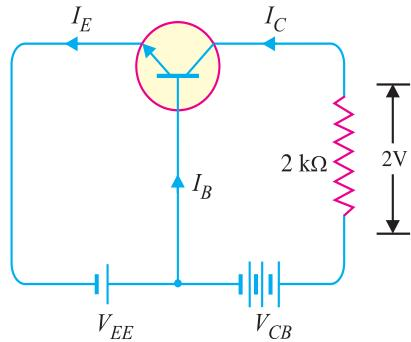

Fig. 8.12
**Solution.** Fig. 8.12 shows the required common base connection. The voltage drop across  $R_C (= 2 \text{k}\Omega)$  is  $2\text{V}$ .